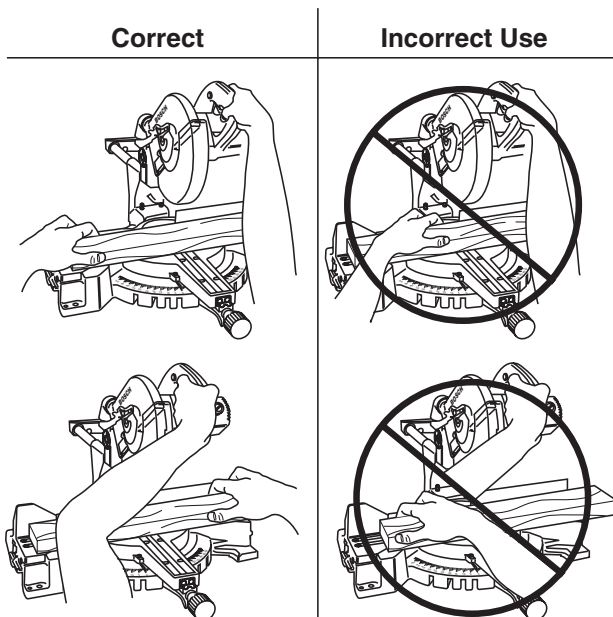

Figure 18. Hand Positions
**⚠ WARNING** Position your body and hands properly to make cutting easier and safer. Observe the following instructions (Figure 18).